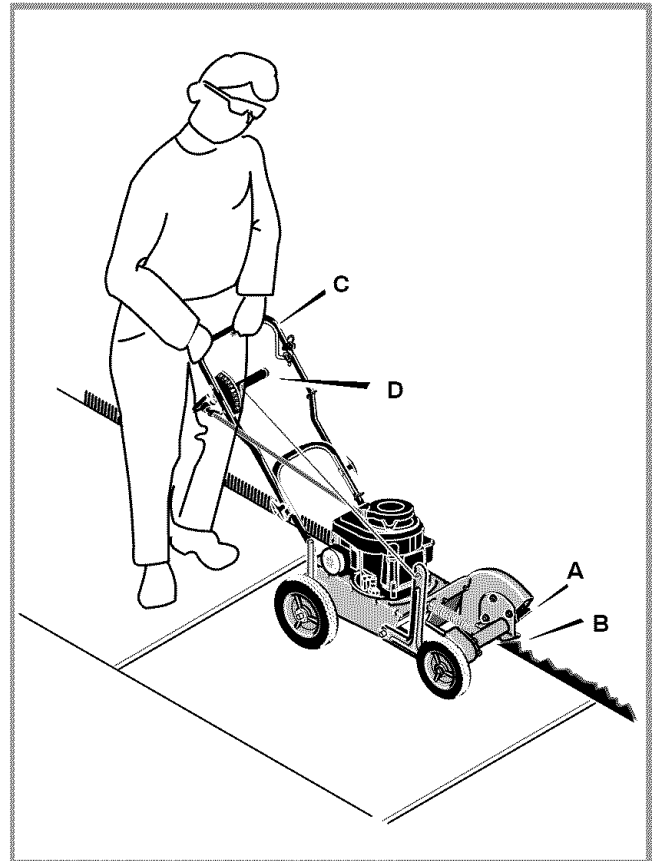

Figure 13: Operation Of Edger
- 1 Before you start the engine, move the depth control lever (D) forward until the blade (A) will not contact the ground.
- 2 When edging along a concrete driveway or sidewalk, set the wheels on the concrete and position the blade along the left side of the driveway. To position the edger on a curb, see the "Curb-hop feature" section. To keep the blade from hitting the driveway, make sure to keep the blade guide (B) aligned with the side of the driveway (see Figure 13).
- 5 Stand behind the edger and firmly hold the handle (D). See Figure 13. As the blade begins to cut, slowly move forward.